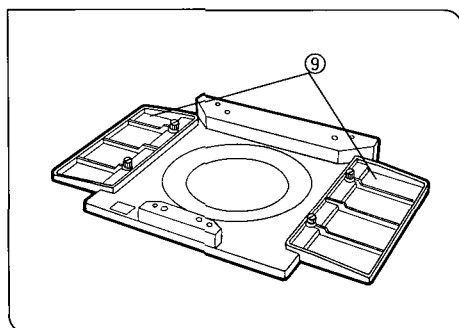

Fig. 16
⊙ When the mechanical stage is not used, a stage extender plate ⑨ can be mounted at both sides of the plain stage. (Fig. 16)